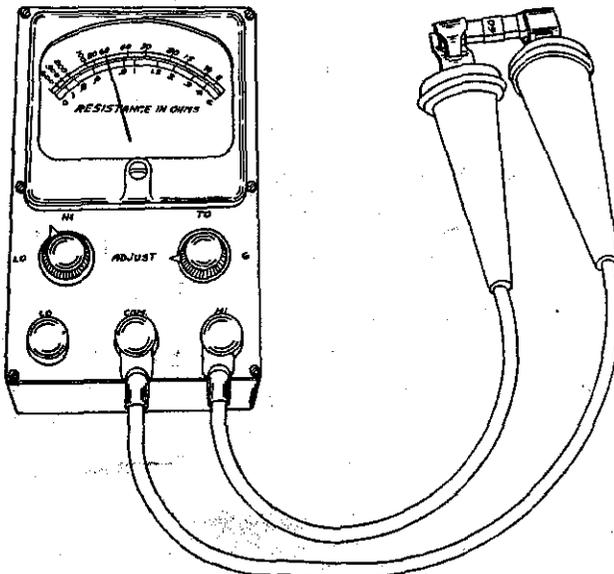

FIGURE 51
1. Check the resistance of the carbon resistors. They should be removed from the regulator and checked with ST-284 ohmeter. See Figure 51.